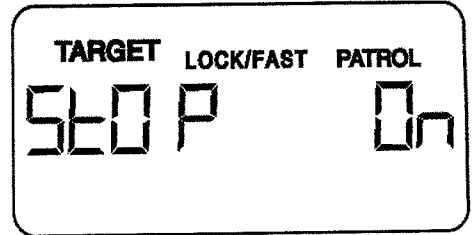
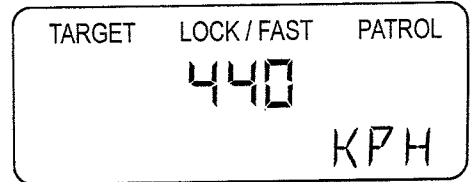

Fig. 23
Fig. 24b
1. Enter Stopwatch Mode using the *STALKER II* rear panel by pressing and holding the **MENU** key, then pressing the **MENU** key five more times to get to the Stopwatch Mode. Use the **▲** and **▼** keys to set **St0 P** to **On**. Fig. 23 shows the Stopwatch Mode in its ON setting. Press the trigger to exit Setup Mode and enter Stopwatch Mode (shown in Fig 24b). The 440 meter display will normally be a different number – depending upon its previous setting.